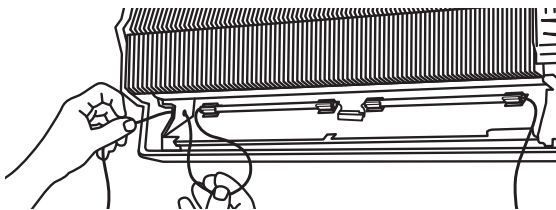

Figure 5.
- 4 • Pass the UV lamp cables through the back of the AC system. (Figure 5)